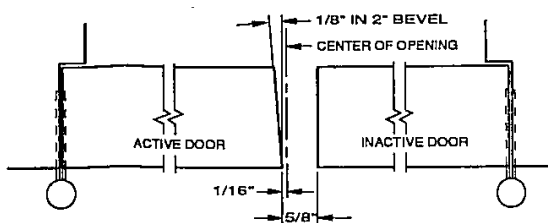
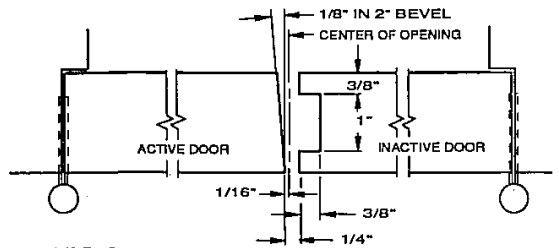

FIG 1 PREPARATION FOR SLIMLINE AND COLONIAL ASTRAGALS
FIG.2 PREPARATION FOR MORTISE TYPE ASTRAGALS
1. Determine door and/or frame size. If the frame is finished- a space for the Astragal must be provided by trimming the edge of the inactive door. See fig.1 for SLIMLINE and COLONIAL Style Astragals and fig.2 for MORTISE Types below. If frame has not been fabricated- it can be sized so that door edge need not be trimmed except to remove bevel from inactive door. Construct frame 3/4" wider than total width of the doors for SLIMLINE and COLONIAL Style Astragals and 3/8" wider for MORTISE Types. In all cases, edge of inactive door must be square.